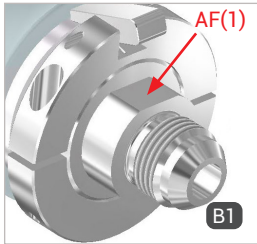

Figure 1
- ▶ When installing the media line, counter-hold at the wrench flat AF(1) using an open-ended spanner (*Figure 1*).
- ▶ Screw the 'B1' media inlet pressure-tight to the port for the media line (*Figure 1*).